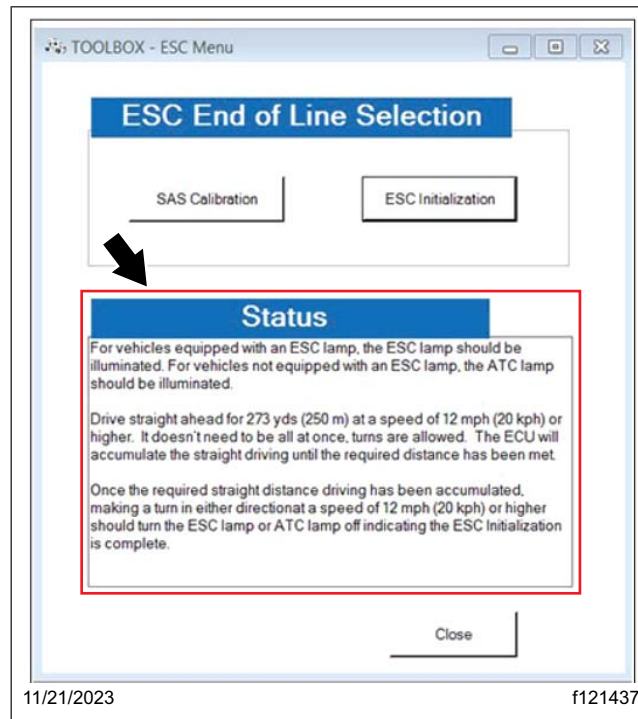

Fig. 25, ESC Initialization Status
28.4 The ESC initialization instructions will appear in the 'Status' window. See Fig. 25